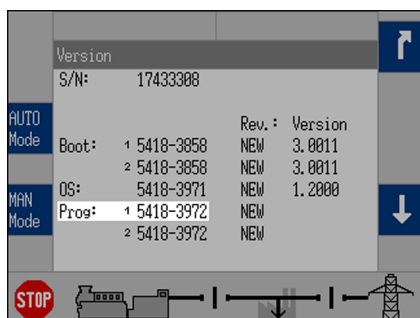

Fig. 6: Version screen - front panel
2. ➤ Please refer to Fig. 6 for details.